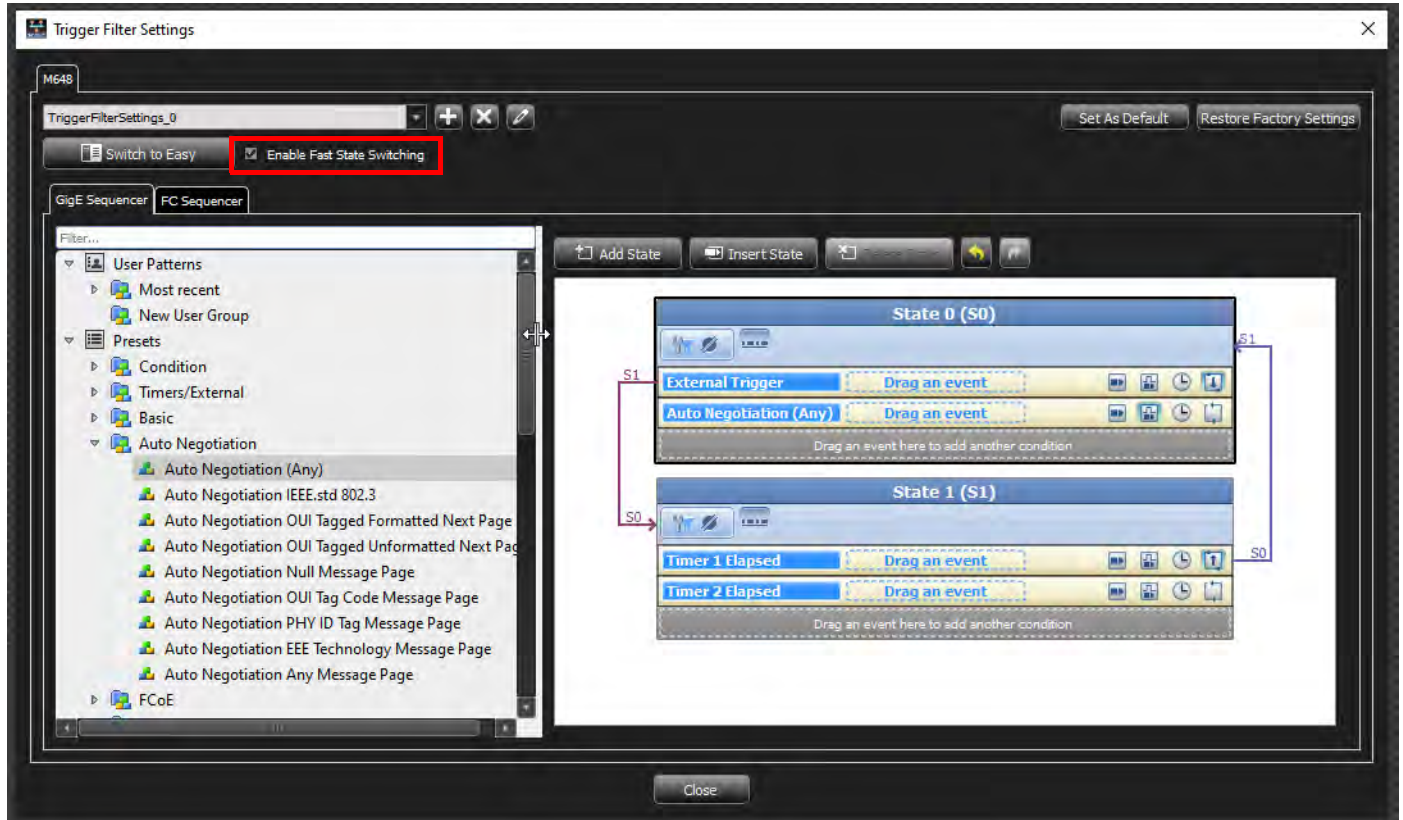

Figure 4.146: M648 Trigger Filter Settings – Enable Fast State Switching
3. Check **Enable Fast State Switching** (Figure 4.146).